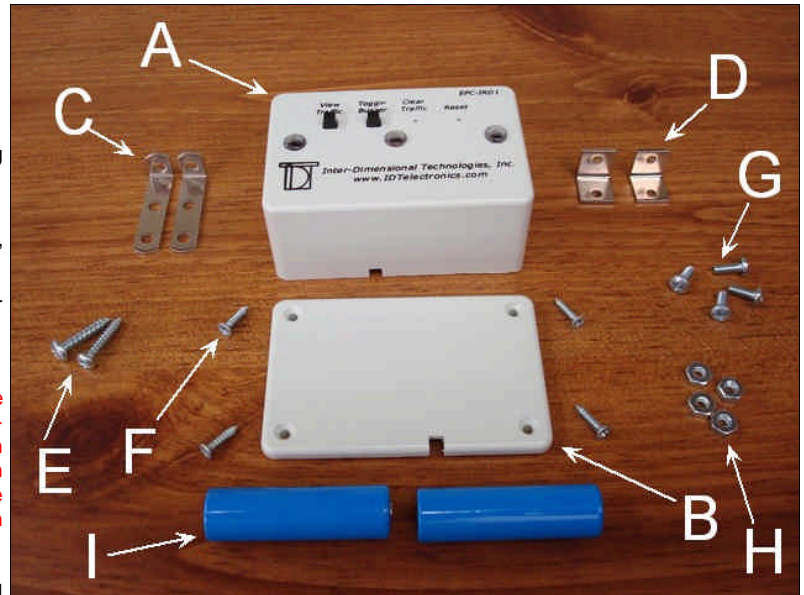

Figure 3: Parts included with the EPC-IRD1
The following is included with the EPC-IRD1. Match the designation letters below to **Figure 3**.
**Optional Power Supply:** The EPC-IRD1 and EPC-IRD1e are powered via the 3.6V batteries shown in **Figure 3**. However, alternatively, the EPC-IRD1 and/or EPC-IRD1e can also be powered by an optional power supply that plugs into a standard two- or three-prong, 120VAC, 60Hz socket (**Figure 4**). It includes six self-adhesive cable ties if you wish to tie the power supply's cable neatly against the wall or floor. A single power supply can only power the EPC-IRD1 or the EPC-IRD1e, but not both at the same time. If you wish to eliminate the batteries from both the EPC-IRD1 and EPC-IRD1e, then you will need to purchase two of these power supplies.